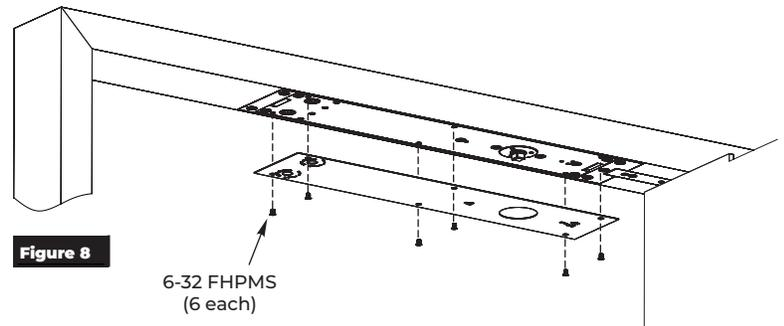

Figure 8
1. Install cover plate to closer body with six (6) 6-32 x 1/4" machine screws. (Figure 8)